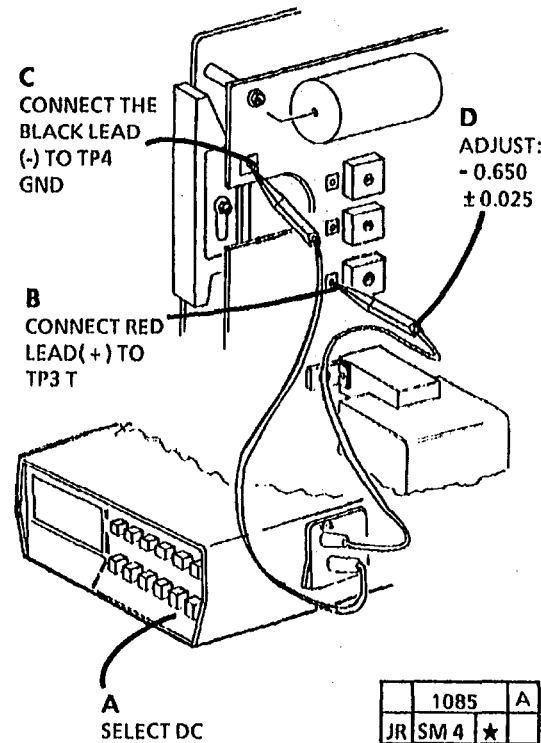

Figure 4. Adjustment of Transfer Corotron
11. (Figure 4): Adjust the transfer corotron voltage.